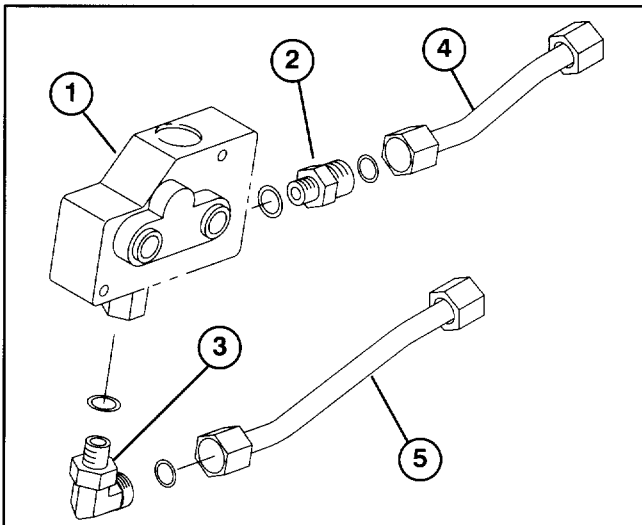

Figure 9
5. Loosen (2) capscrews securing lift valve to frame channel (Fig. 9).
7. Install new straight fitting and O-ring into rear of lift valve (Fig. 9).
9. Install new elbow fitting and O-ring into bottom of lift valve (Fig. 9).
10. Loosely install shorter hydraulic tube to straight fitting on rear of lift valve (Fig. 9).
11. Loosely install longer hydraulic tube to elbow fitting on bottom of lift valve (Fig. 9).